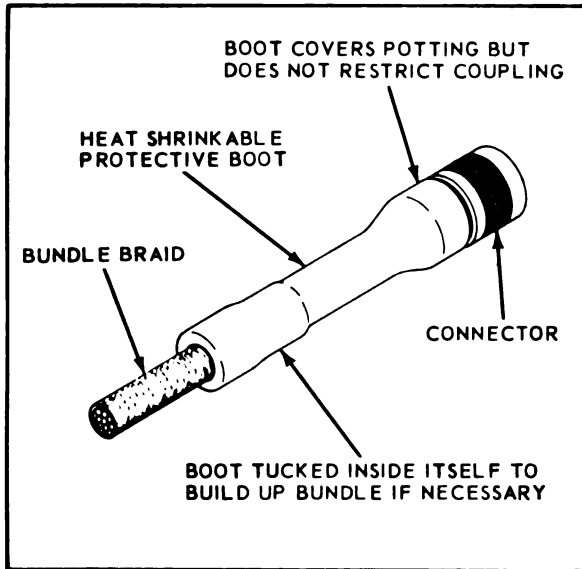
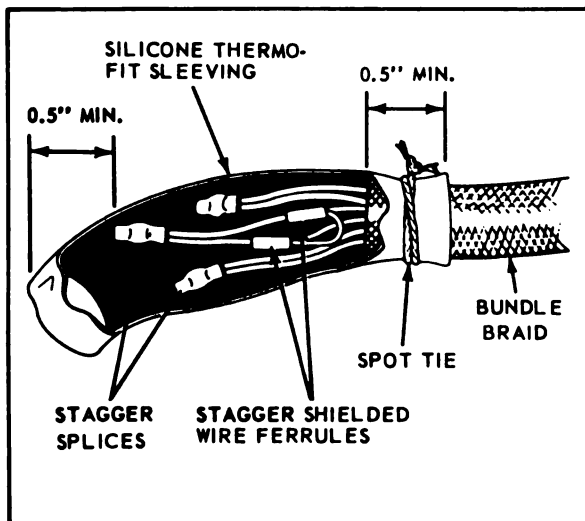

Figure 12-6. Protective Boot on Compact Wire Bundle
Figure 12-7. Heat-Shrinkable Sleeving Over Splice Area
12-20. DESCRIPTION. The wire bundle is prefabricated (without terminations) of wires twisted together in one or more lays, each lay twisted in the opposite direction to the preceding lay. The wire bundle is completely covered with a braided dacron protective jacket which ends approximately three inches from the termination points. When the wire bundle is installed, and the terminations attached, the exposed area between the end of the braided jacket and a connector is covered with a protective boot. (See figure 12-6.) When splice terminations are used the splice area is protected by heat-shrinkable silicone sleeving. (See figure 12-7.)
- c. Heat shrinking process for thermofit sleeving. Heat-shrinkable sleeving is used to replace protective boots, at splice areas (see figure 12-7), and for insulating end caps. Refer to Section XI, paragraph 11-22 for selecting and installing heat-shrinkable tubing.
- d. Assembly of stub splices and covering stub splice areas. Stub splices are defined as those splices that enter the wire connector from the same end. (Refer to figure 12-7).